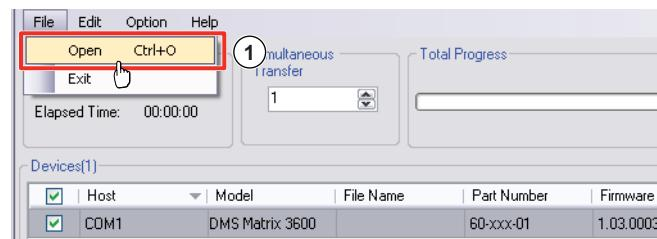

Figure 44. Extron Firmware Loader Window
If you are connected via either serial port, the Firmware Loader window opens (see figure 44 and **Serial-port or USB-port-connected firmware upload** on the next page).
11. Select the DMS matrix switcher and click **File > Open** (see figure 44 [①]).